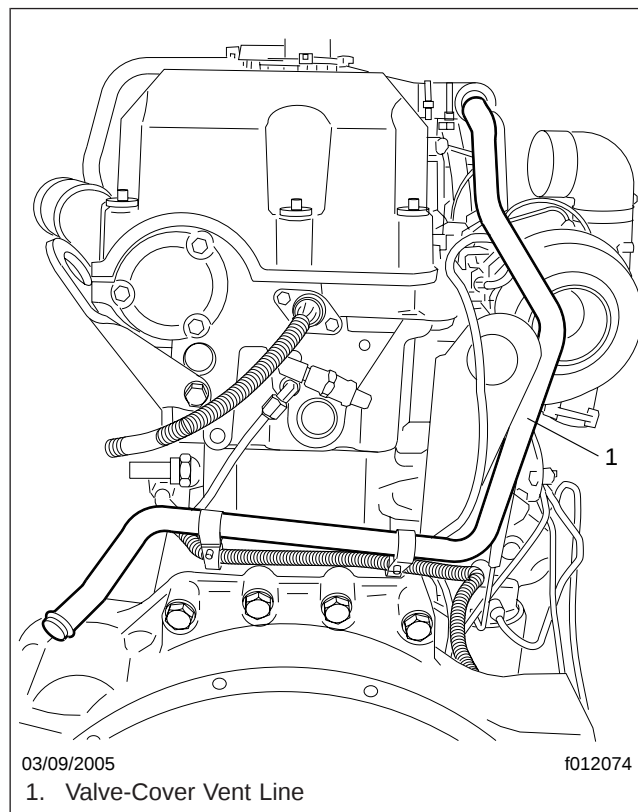

Fig. 3, View From the Rear of the Engine
- 5.3 Remove the tie straps that hold the harness to the valve-cover vent tube. See Fig. 3.